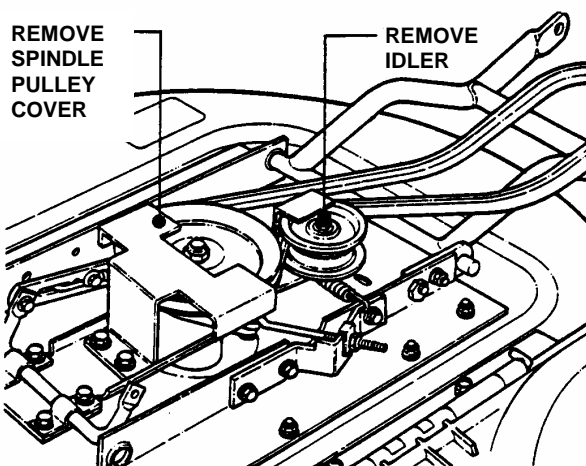

FIGURE 4.31
4. Remove deck belt idler pulley and spindle pulley cover. See Figure 4.31.